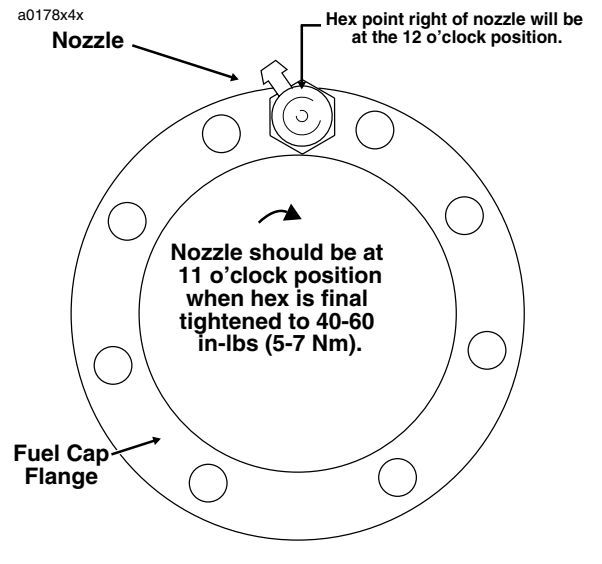

Figure 4-7. Filler Cap Flange Torque Sequence and Vent Tube Fitting Orientation
6. Alternately loosen and remove eight fuel cap flange screws in a crosswise pattern. See Figure 4-7.
5. Using a crosswise pattern, alternately tighten eight fuel cap flange screws until snug. See Figure 4-7. Following the same pattern, final tighten screws to 20-22 **in-lbs** (2-3 Nm).
6. Hand tighten vent tube fitting, so that nozzle is at the 11 o'clock position (with hex point to the right of the nozzle at 12 o'clock). See Figure 4-7.